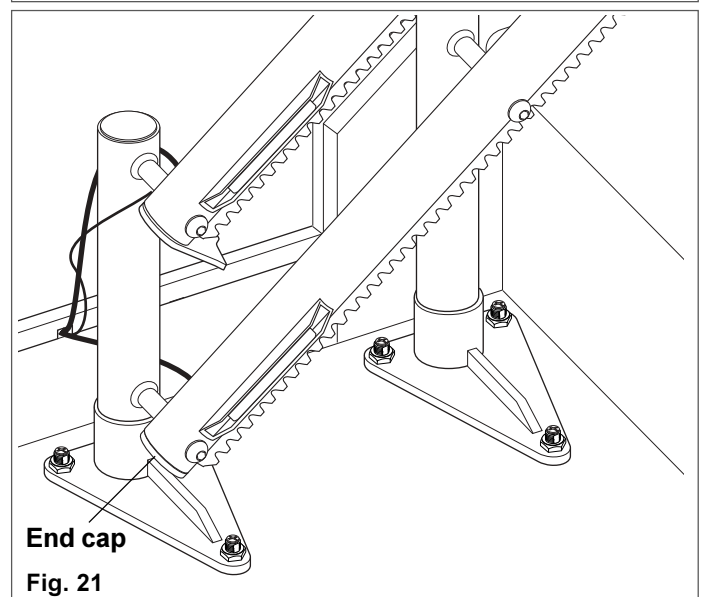

Fig. 21
- 7 Carefully feed the bottom charge loom into the rail, and replace the end cap (Fig. 21) at the bottom end of the track.